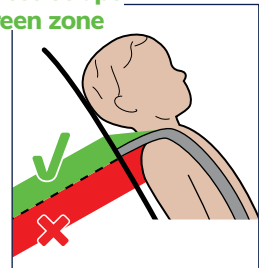

Figure 7
Step 2. The harness straps are to be level with shoulders or slightly above, but not below (Figure 7).